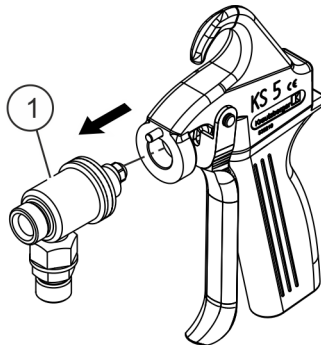

Fig. 18: Pull out head piece from the main element
2. ➤ Pull the head piece (Fig. 18/1) towards the front and out of the main element.